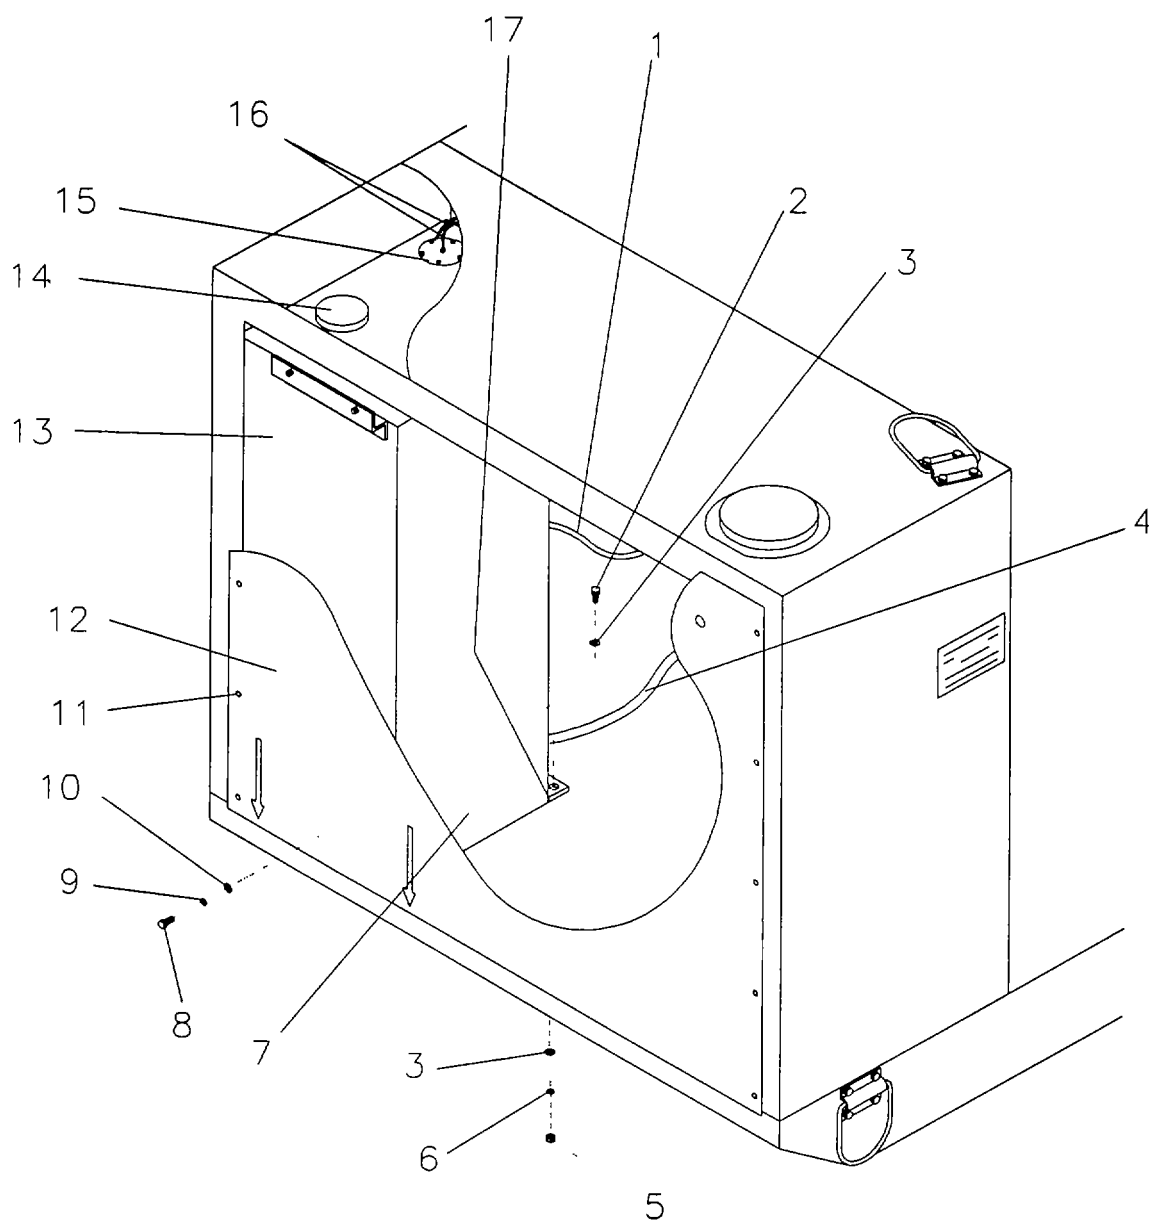

Figure 5-7. Fuel Tank
a. Removal. Refer to figure 5-7.
- 1) Remove the rear panel (12). Remove screws (11), flatwashers (10), lockwashers (9) and screws (8) and remove panel (12). Discard lockwashers
- 2) Tag and remove the two wires (16) going to the fuel gauge sender (15) on top of the fuel tank (13).
- 3) Remove and plug hoses (1 and 4) at the fuel tank (13).
b. Installation. Refer to figure 5-7
- 1) Install the fuel tank (13) through rear of the cabinet, with the bottom mounting angle (17) to the front